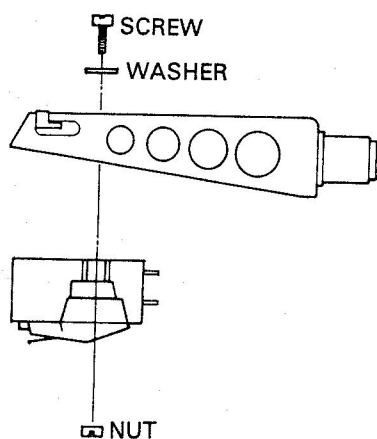

Figure 11
- Remove the cartridge from headshell. (See figure 11)